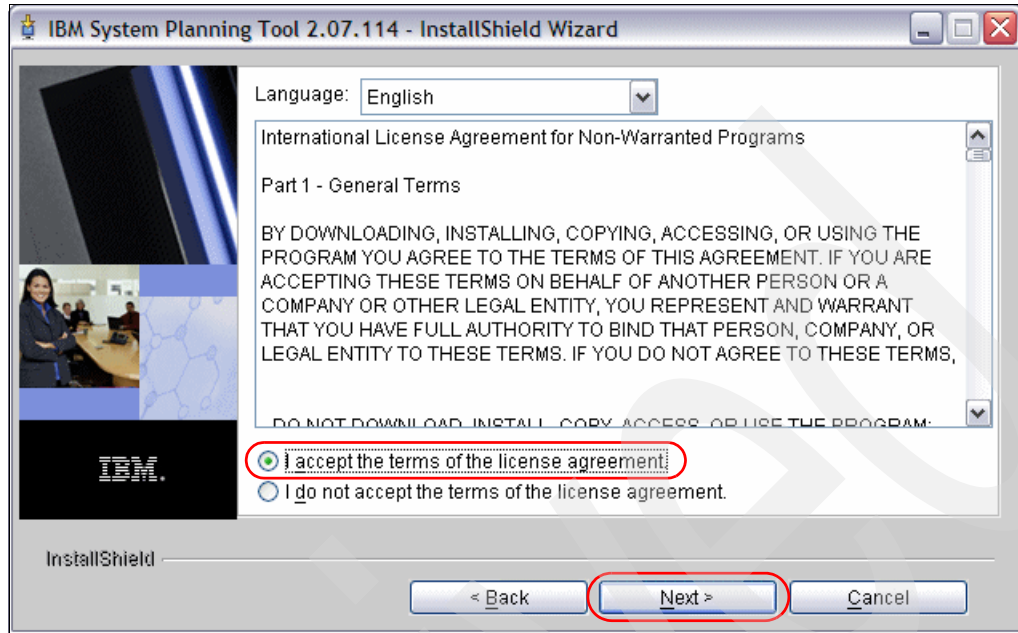

Figure A-11 Accept the license agreement
6. As shown in Figure A-11, you have to read the license agreement and accept the terms to continue. Select **I accept** and click **Next**.